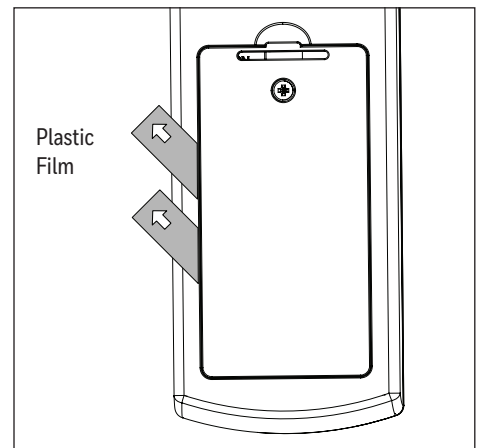

Figure 5.9
- Batteries were preinstalled in the battery compartment of the remote. Pull the plastic film in the direction of the arrow to remove, which will activate the batteries. Press the FAN POWER button to ensure the LED indicator illuminates and the fan turns on (Figure 5.9)